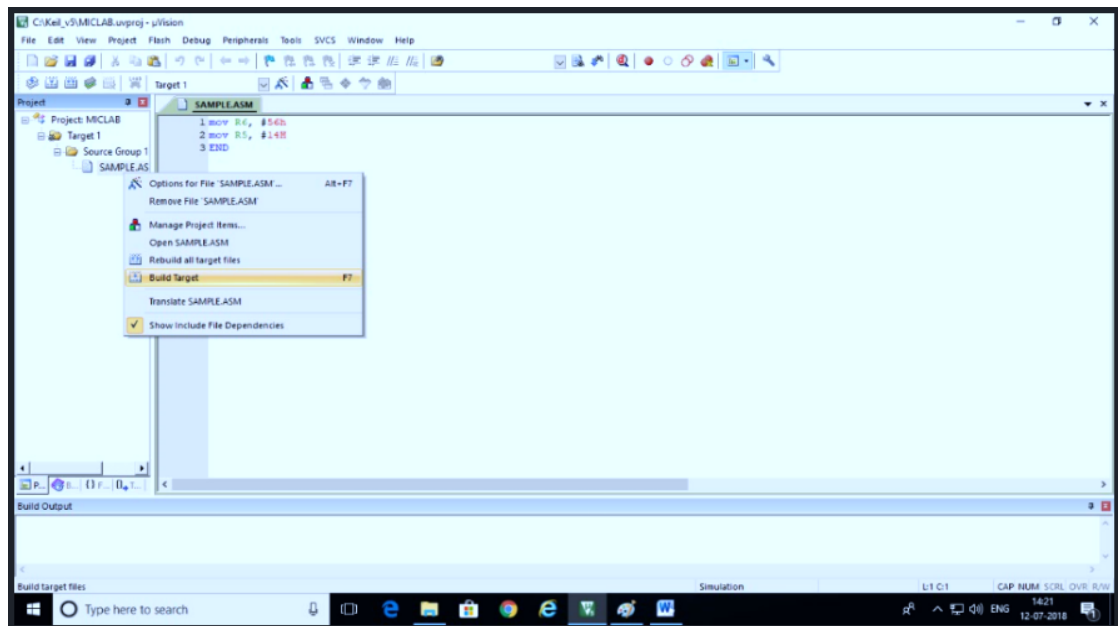

Figure 4.8: Building Target Window
12. Right click on source group, click on Build target or press F7. (refer Figure 4.8)